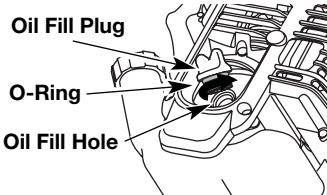

Fig. 17
3. Remove the oil fill plug from the crankcase (Fig. 17).